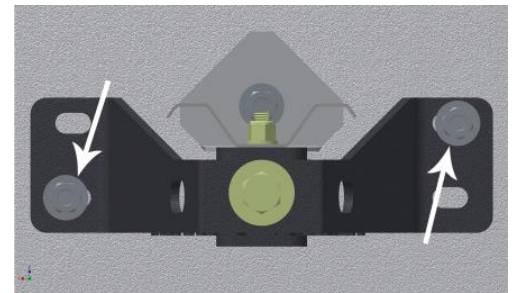

Figure 6: Drill anchor bolts 2 1/4" deep.
14. Drill two anchor bolt holes 2 1/4" deep in the pad diagonally opposite of each other. (Figure 6)